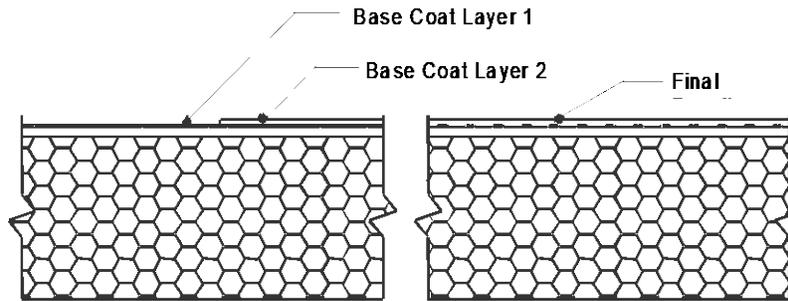

Figure 7
- 9.5.1.2.3. Allow the base coat mixture to take up until firm to the touch. Trowel a second tight coat of the base coat mixture over the first coat to fully cover the reinforcing mesh (see Figure 7). The result should be such that the reinforcing mesh is approximately centered within the base coat thickness. Do not allow the first pass to completely dry prior to the